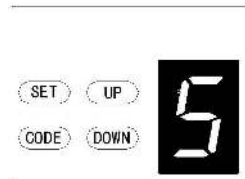

Fig.18
- 17.3 Momentarily press the "Up" button until "5" is displayed on the LED screen. (Fig.18)